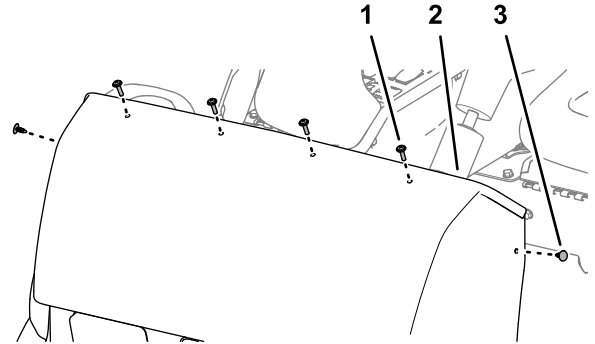

Figure 6
5. Remove the 4 Phillips pan-head screws (1/4 x 1 inch) that secure the hood to the dash support (Figure 6).
6. Remove the 2 push-in fasteners that secure the hood to the dash support (Figure 6).